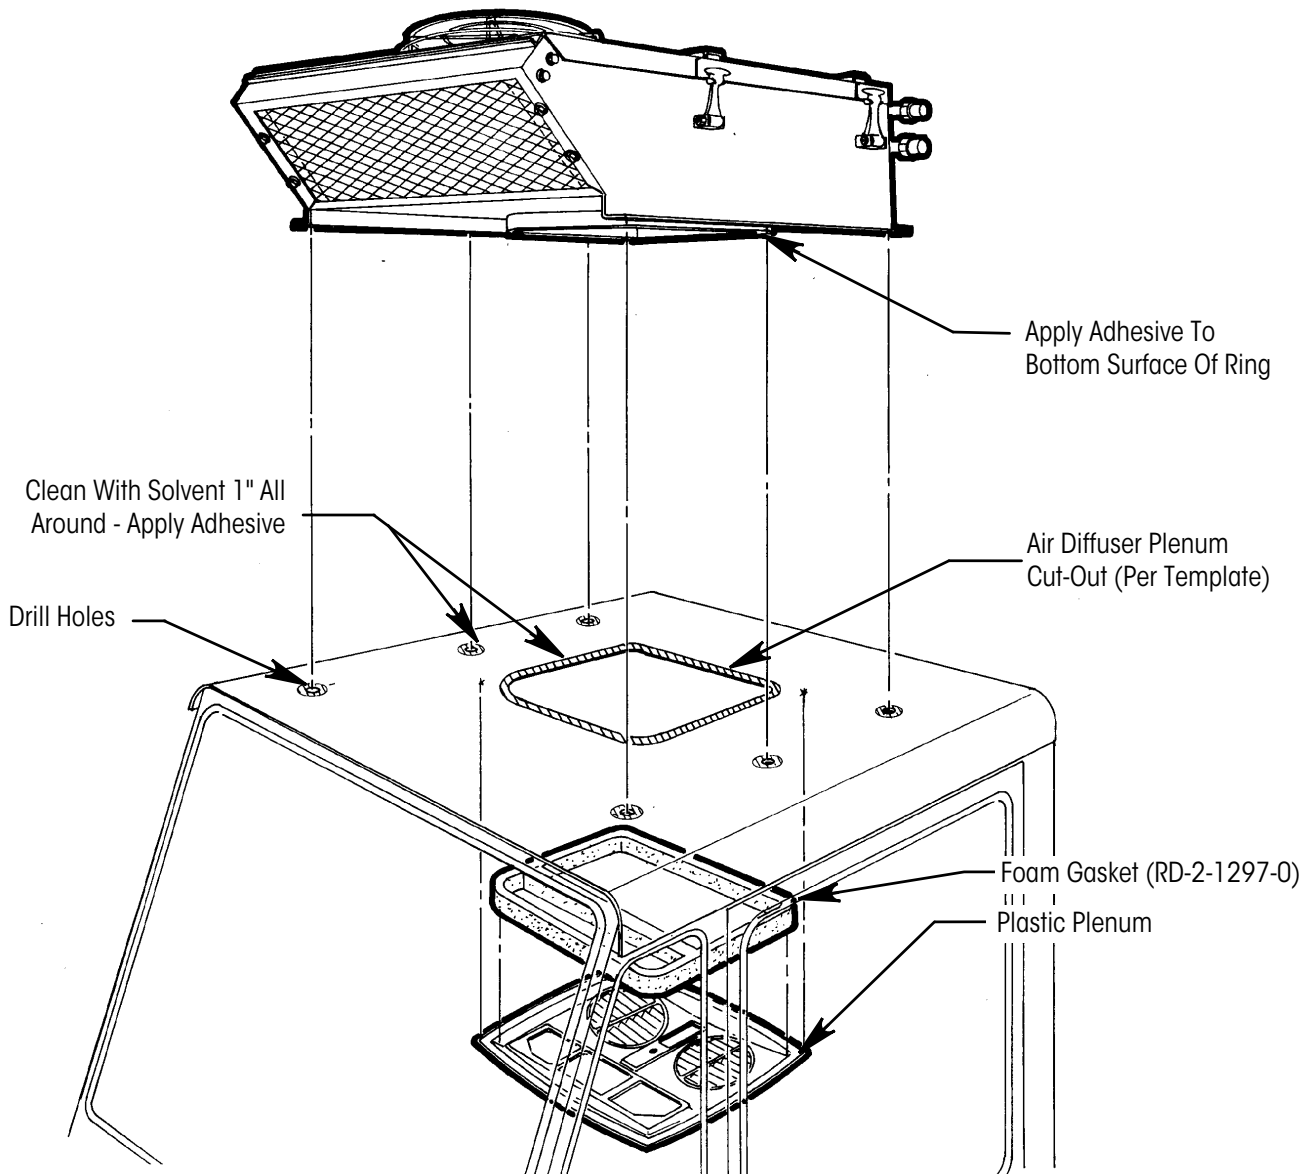

Figure 1
- 8.** Apply a thin film of adhesive 1" wide around upper surface of roof cut-out and mounting holes. Apply sealer to the face of the sealing ring on the unit. See Figure 1.